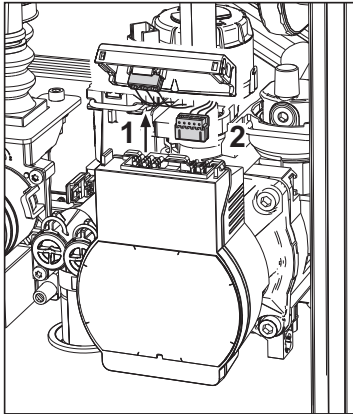

fig. 37
- Electrically disconnect the circulating pump, releasing the connections by raising detail “1” of fig. 37.